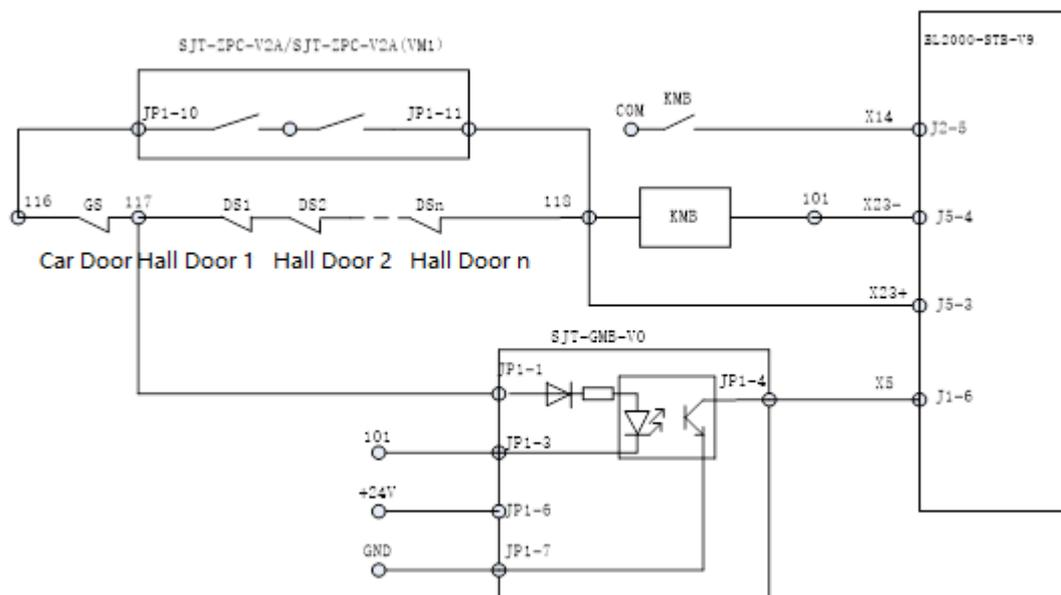

Figure F6.1 Single Door Left Floor/Car Door Short-circuited Detection Plan
- 2) In order to accord with the new national standard (or new inspection rules), the floor-door or car-door is short connected, which can be detected effectively and stop normal operation. As shown in figure F6.1, a safety circuit board (SJT-ZPC-V2A or SJT-ZPC-V2A (VM1)) must be installed, and Advance Door Open function or Re-leveling function is required to be enabled. (FU19 or FU20 must be set to ON).